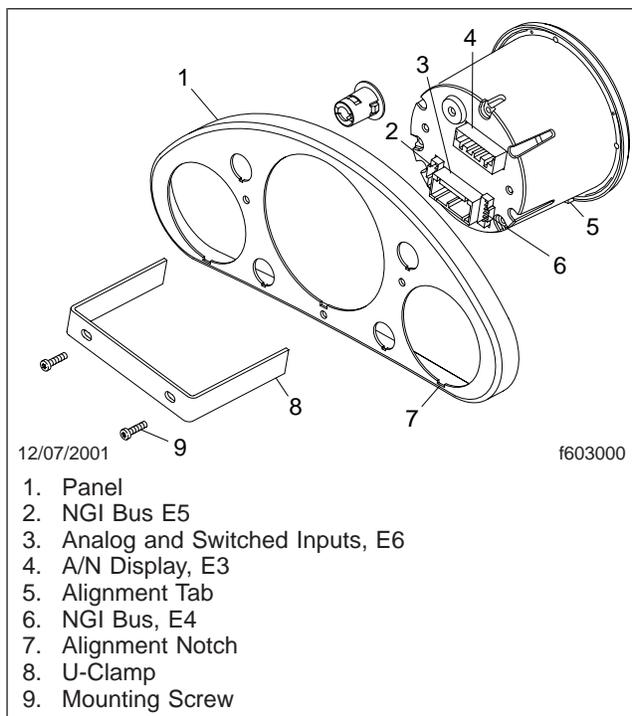

Fig. 1, Speedometer Mounting
4. Depress the locking tabs and disconnect the four electrical connectors from the rear of the speedometer. See Fig. 1.